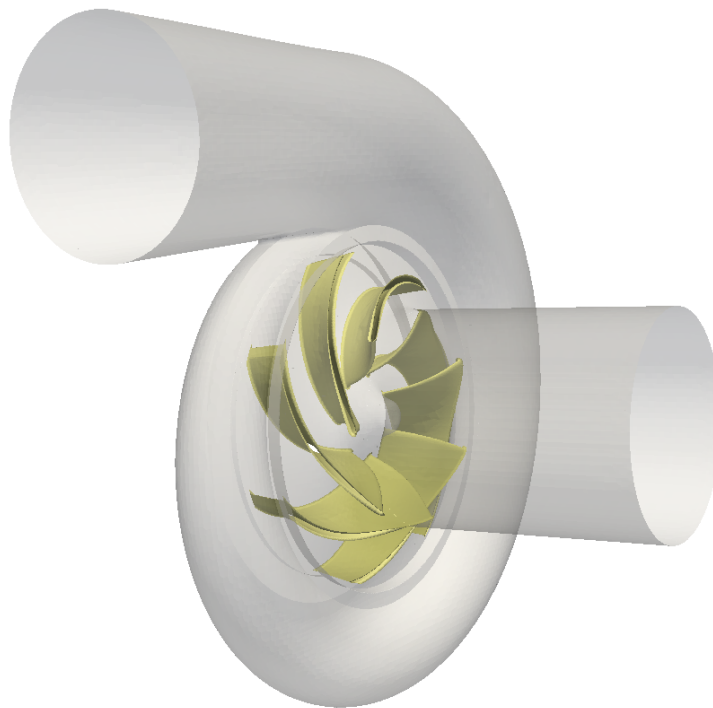
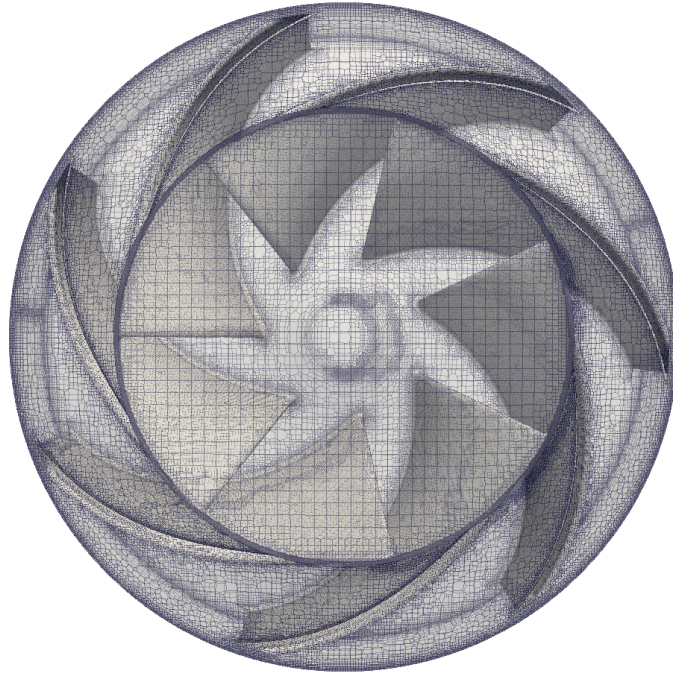
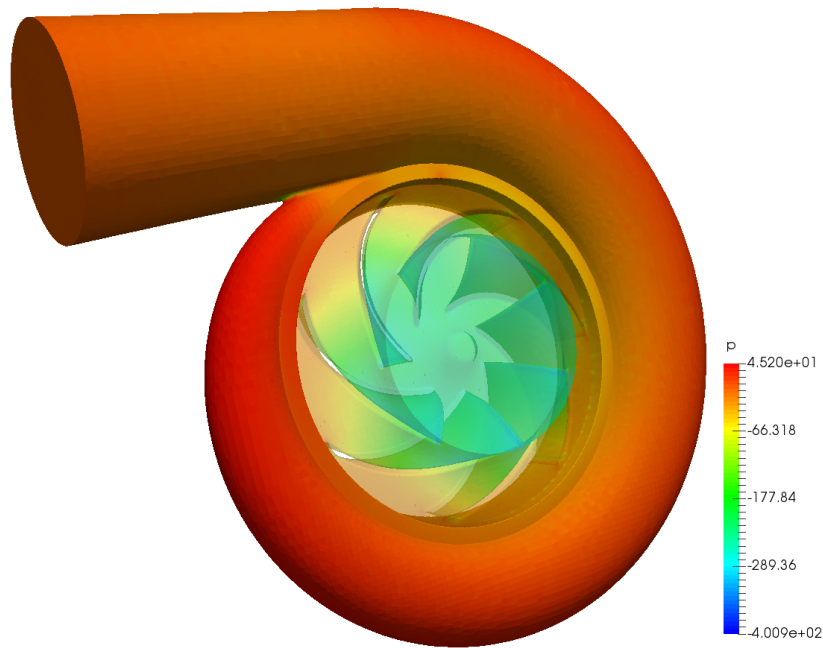

Figure 16.2: Geometry of the TCAE tutorial pump used in this examples.
Figure 16.3: Computational mesh in the rotor MRF (rotating) zone as generated by TMESH using the **snappyHexMesh** mesher.
Figure 16.5: Static pressure field in the pump. The incompressible simulation has been done by TCFD.
All following Turbo Blade Post usage examples are presented on a numerical results from a simulation of an incompressible flow in a pump. The boundary geometry of the simulated volume of the pump is shown in the Fig. 16.2. The meshing and calculation has been done by TCAE. The resulting meshes are displayed in the figures 16.3 and 16.4. Numerical results are illustrated in the figures 16.5 and 16.6. These are classical visualisations from ParaView. Turbo Blade Post offers several new ways how to inspect the numerical data, which are presented in the following chapters.
Step 2 — The transformation from the cylinder - or disk-like rotating area (as shown in the Fig. 16.3 or 16.4) into the normalized rectangular block can be calculated by the filter **Turbo Unwrap**. You should see the icon of the filter in the toolbar.